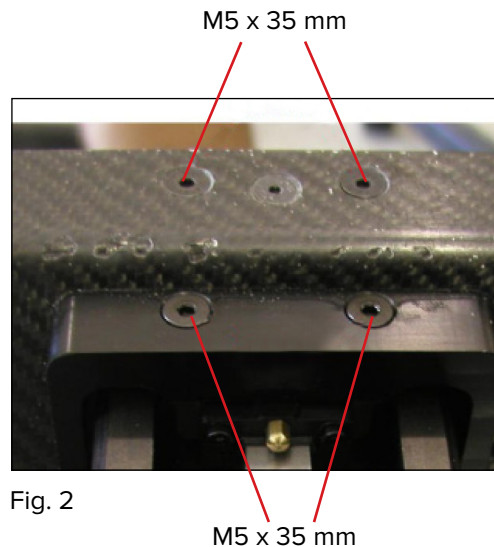

Fig. 2
(2) M5 x 35 mm into the upper holes and (2) M5 x 25 mm into the lower holes (Fig. 2).